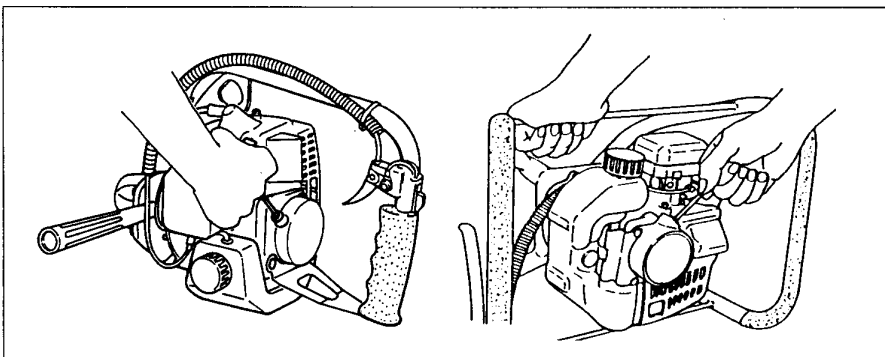

Fig. 2-4
3. Pull the recoil starter handle briskly, taking care to keep the handle in your grasp; and not allowing it to snap back. (Fig. 2-4)